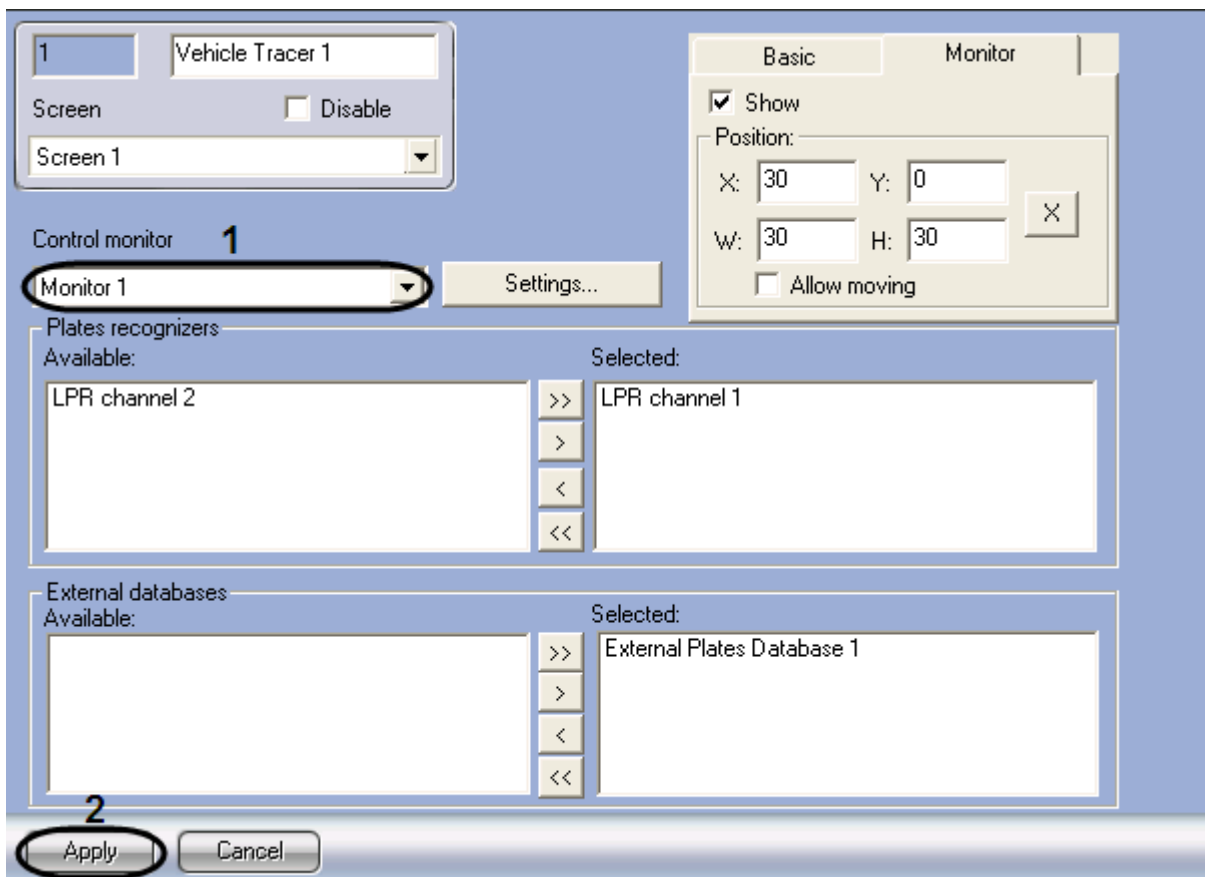

Fig. 7.8-12 Selecting the Monitor object for playing back the video archive
1. Go to the Vehicle tracer settings panel (Fig. 7.8-12).
2. From the Control monitor list (Fig. 7.8-12, 1) select the Monitor object, with the help of which video archive is required to be played back from the plate's recognition camera.
3. Click Apply (Fig. 7.8-12, 2).